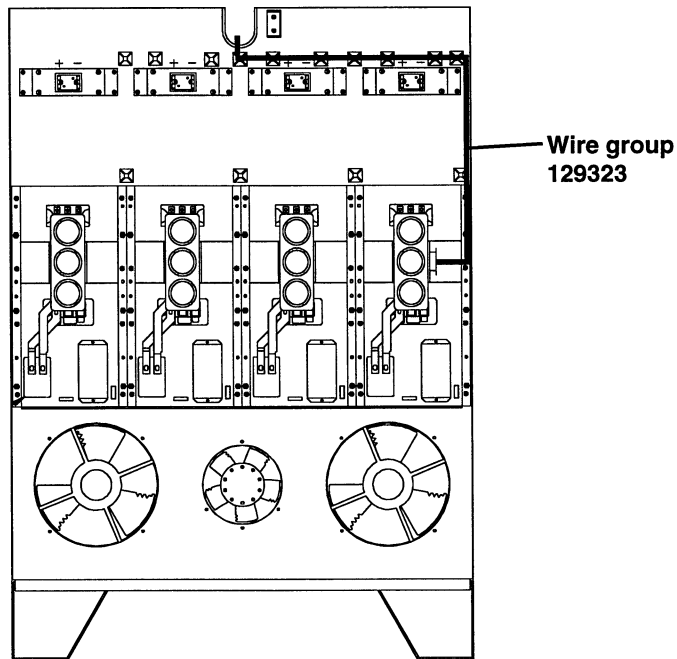

Figure 10 Routing 129323 Wire Group to Control Board - 1 of 2
3. Route 129323 wire group from P1 of phase loss detection pcb to control board as shown in Figs. 10 and 11.